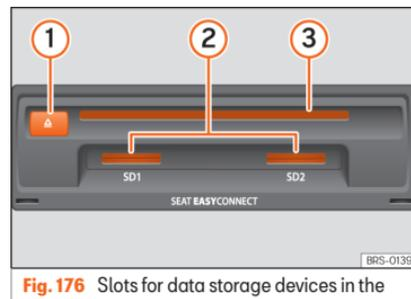

Fig. 176 Slots for data storage devices in the glove compartment.
- Insert a CD into the slot »» **Fig. 176** ③ with the printed side facing upwards, until the equipment inserts it automatically.
Insert the compatible memory card, with the cut corner first and the contacts facing down, into slot **» Fig. 176 ②** or **» Fig. 140 ⑨**, until it clicks into place.